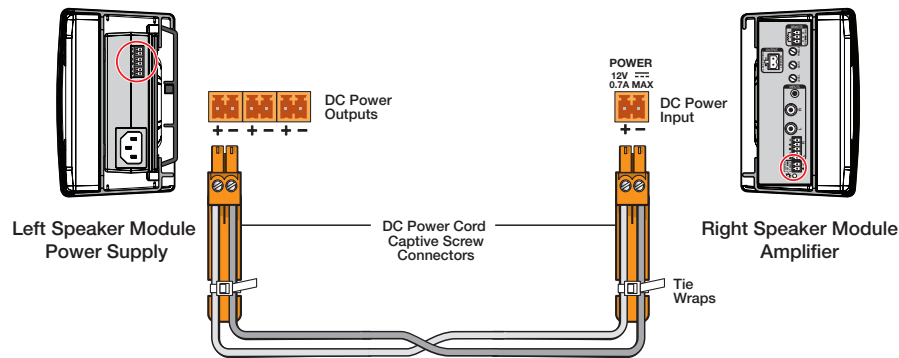

Figure 13. Power Supply to Amplifier Cable Routing
- Route the supplied power cable from the power supply in the left speaker enclosure to the power input connector of the amplifier in the right speaker enclosure (see figure 13).